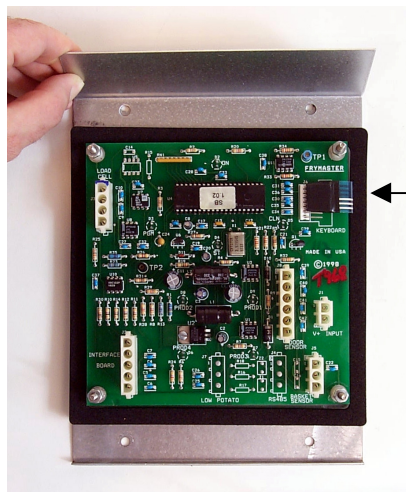

Fig.10: Use the deflector shroud to position the upper edge of the cutout gasket, which surrounds the computer interface board.
- Inspect for presence of a “C” stamped on motor mounting flange, which indicates the unit has been reworked. Confirm presence of new components by checking for the moisture deflector above the computer housing. See Fig: 10, 17. If new components are not present, proceed.
- Use the deflector shroud included in the service kit as a template to position the surrounding perimeter gasket. Fig. 10. Remove the backing from the gasket and put it in place. **Ensure the ribbon cable on the board remains attached and unstressed.**